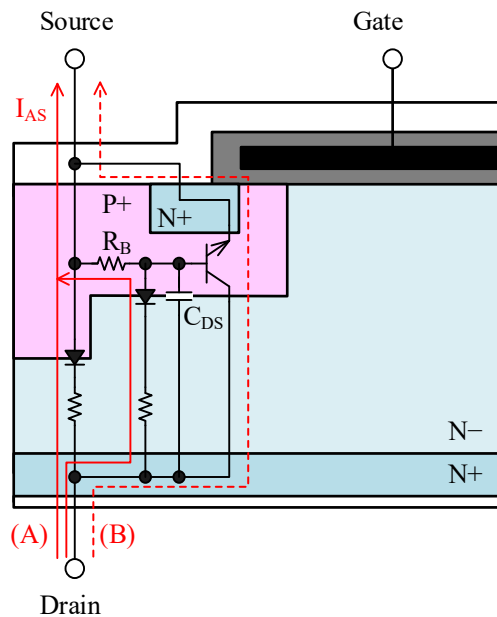

Figure 2-12. Section View of a Planar Power MOSFET (N-channel)
Figure 2-12 shows a section view of a planar power MOSFET (N-channel). In the breakdown region, the avalanche current,  $I_{AS}$ , flows as shown in (A) in Figure 2-12. At this time, a voltage is generated across the base resistor,  $R_B$ , of the parasitic NPN bipolar transistor. When the voltage exceeds the base-to-emitter voltage that turns on the parasitic NPN bipolar transistor, a current flows as shown in (B) in Figure 2-12. At this time, if the drain-to-source voltage is high, the secondary breakdown occurs in the parasitic NPN bipolar transistor, thus, the current flowing through the transistor increases rapidly, resulting in the destruction of power MOSFET.